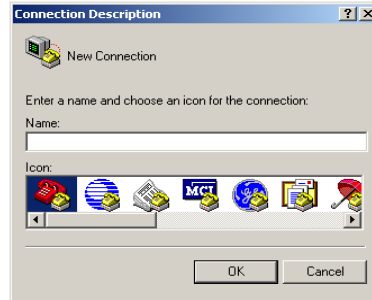

Figure 1: Setup menu for hyper-terminal connection
- A screen will appear similar to Figure 1.